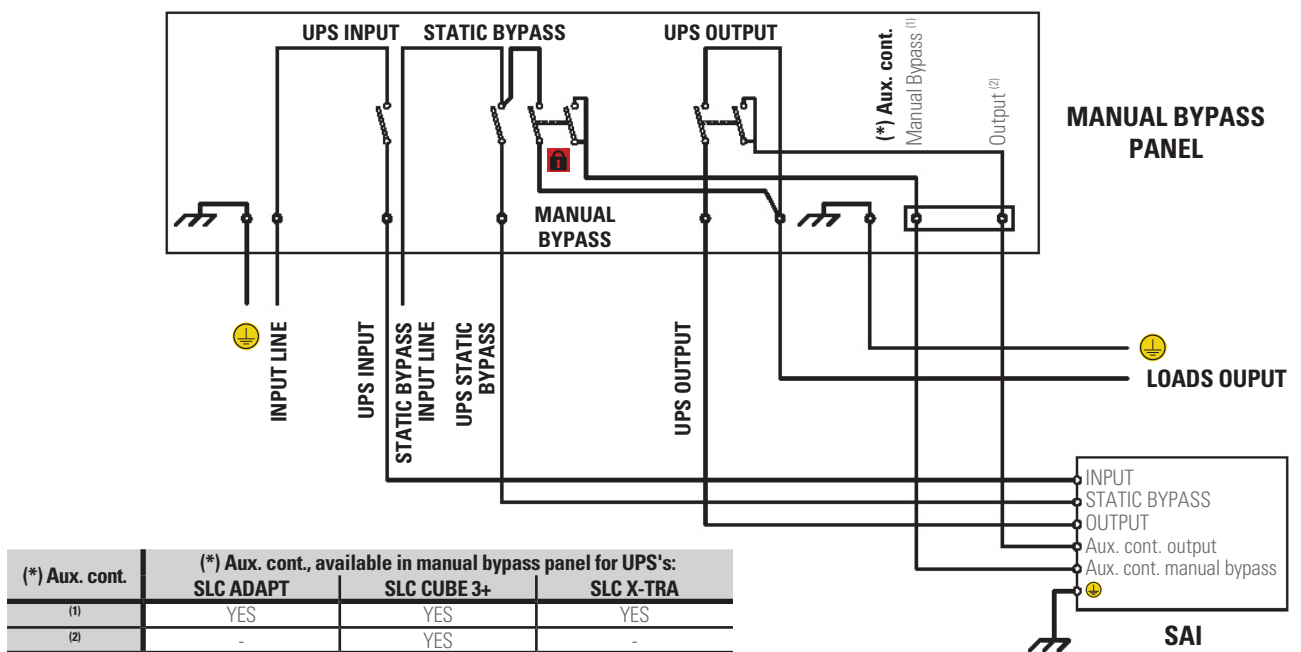

Fig. 4. Generic manual bypass panel for a UPS with separate bypass line.
- Generic manual bypass panel for a standard UPS with separate bypass line (Fig. 4).